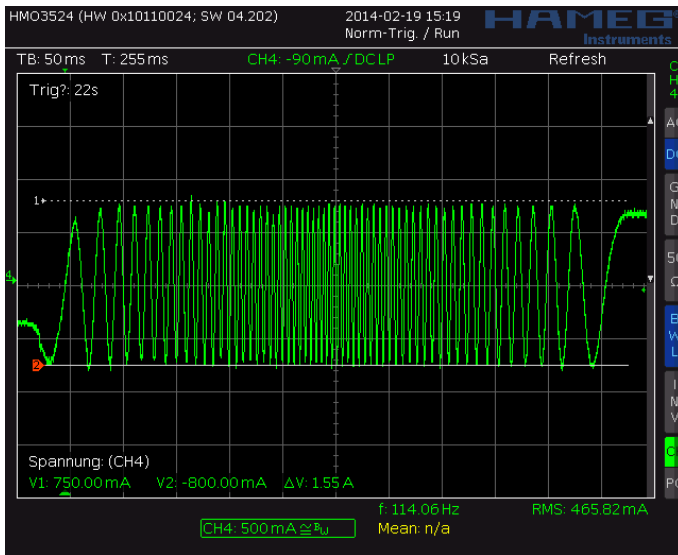
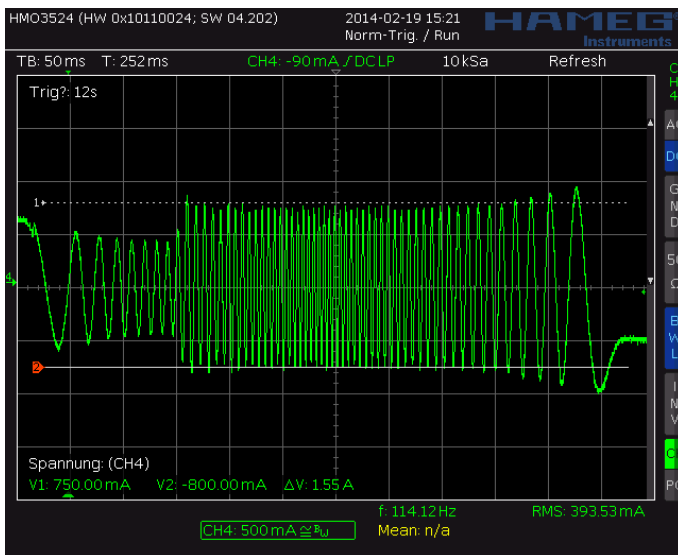
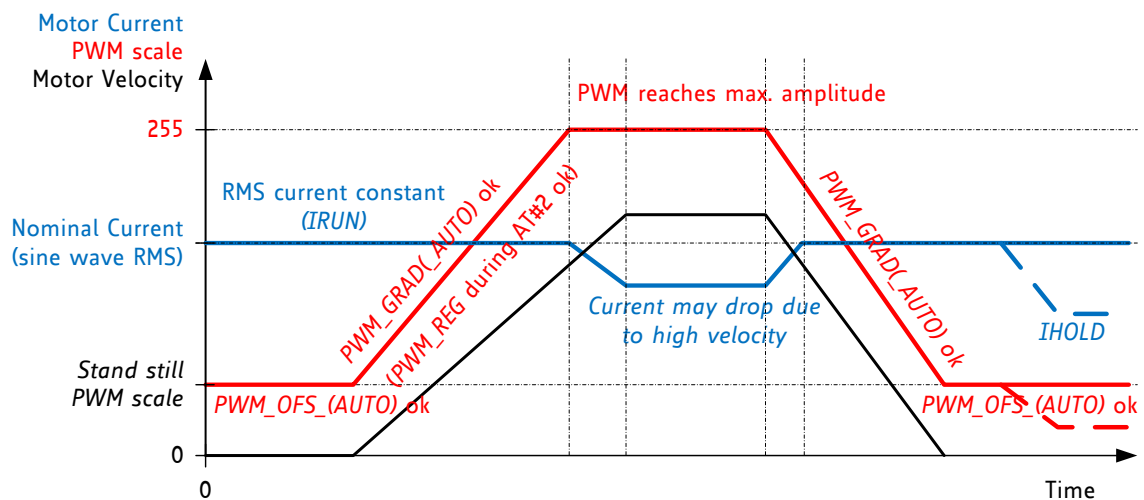

Figure 7.3 Scope shot: good setting for PWM\_REG
Figure 7.4 Scope shot: too small setting for PWM\_REG during AT#2
Figure 7.5 Successfully determined PWM\_GRAD(AUTO) and PWM\_OFS(AUTO)
In stealthChop voltage PWM mode, the autoscoping function ( $pwm\_autoscale = 1$ ,  $pwm\_auto\_grad = 1$ ) regulates the motor current to the desired current setting. Automatic scaling is used as part of the automatic tuning process (AT), and for subsequent tracking of changes within the motor parameters. The driver measures the motor current during the chopper on time and uses a proportional regulator to regulate  $PWM\_SCALE\_AUTO$  in order match the motor current to the target current.  $PWM\_REG$  is the proportionality coefficient for this regulator. Basically, the proportionality coefficient should be as small as possible in order to get a stable and soft regulation behavior, but it must be large enough to allow the driver to quickly react to changes caused by variation of the motor target current (e.g. change of  $VREF$ ). During initial tuning step AT#2,  $PWM\_REG$  also compensates for the change of motor velocity. Therefore, a high acceleration during AT#2 will require a higher setting of  $PWM\_REG$ . With careful selection of homing velocity and acceleration, a minimum setting of the regulation gradient often is sufficient ( $PWM\_REG=1$ ).  $PWM\_REG$  setting should be optimized for the fastest required acceleration and deceleration ramp (compare Figure 7.3 and Figure 7.4). The quality of the setting  $PWM\_REG$  in phase AT#2 and the finished automatic tuning procedure (or non-automatic settings for  $PWM\_OFS$  and  $PWM\_GRAD$ ) can be examined when monitoring motor current during an acceleration phase Figure 7.5.